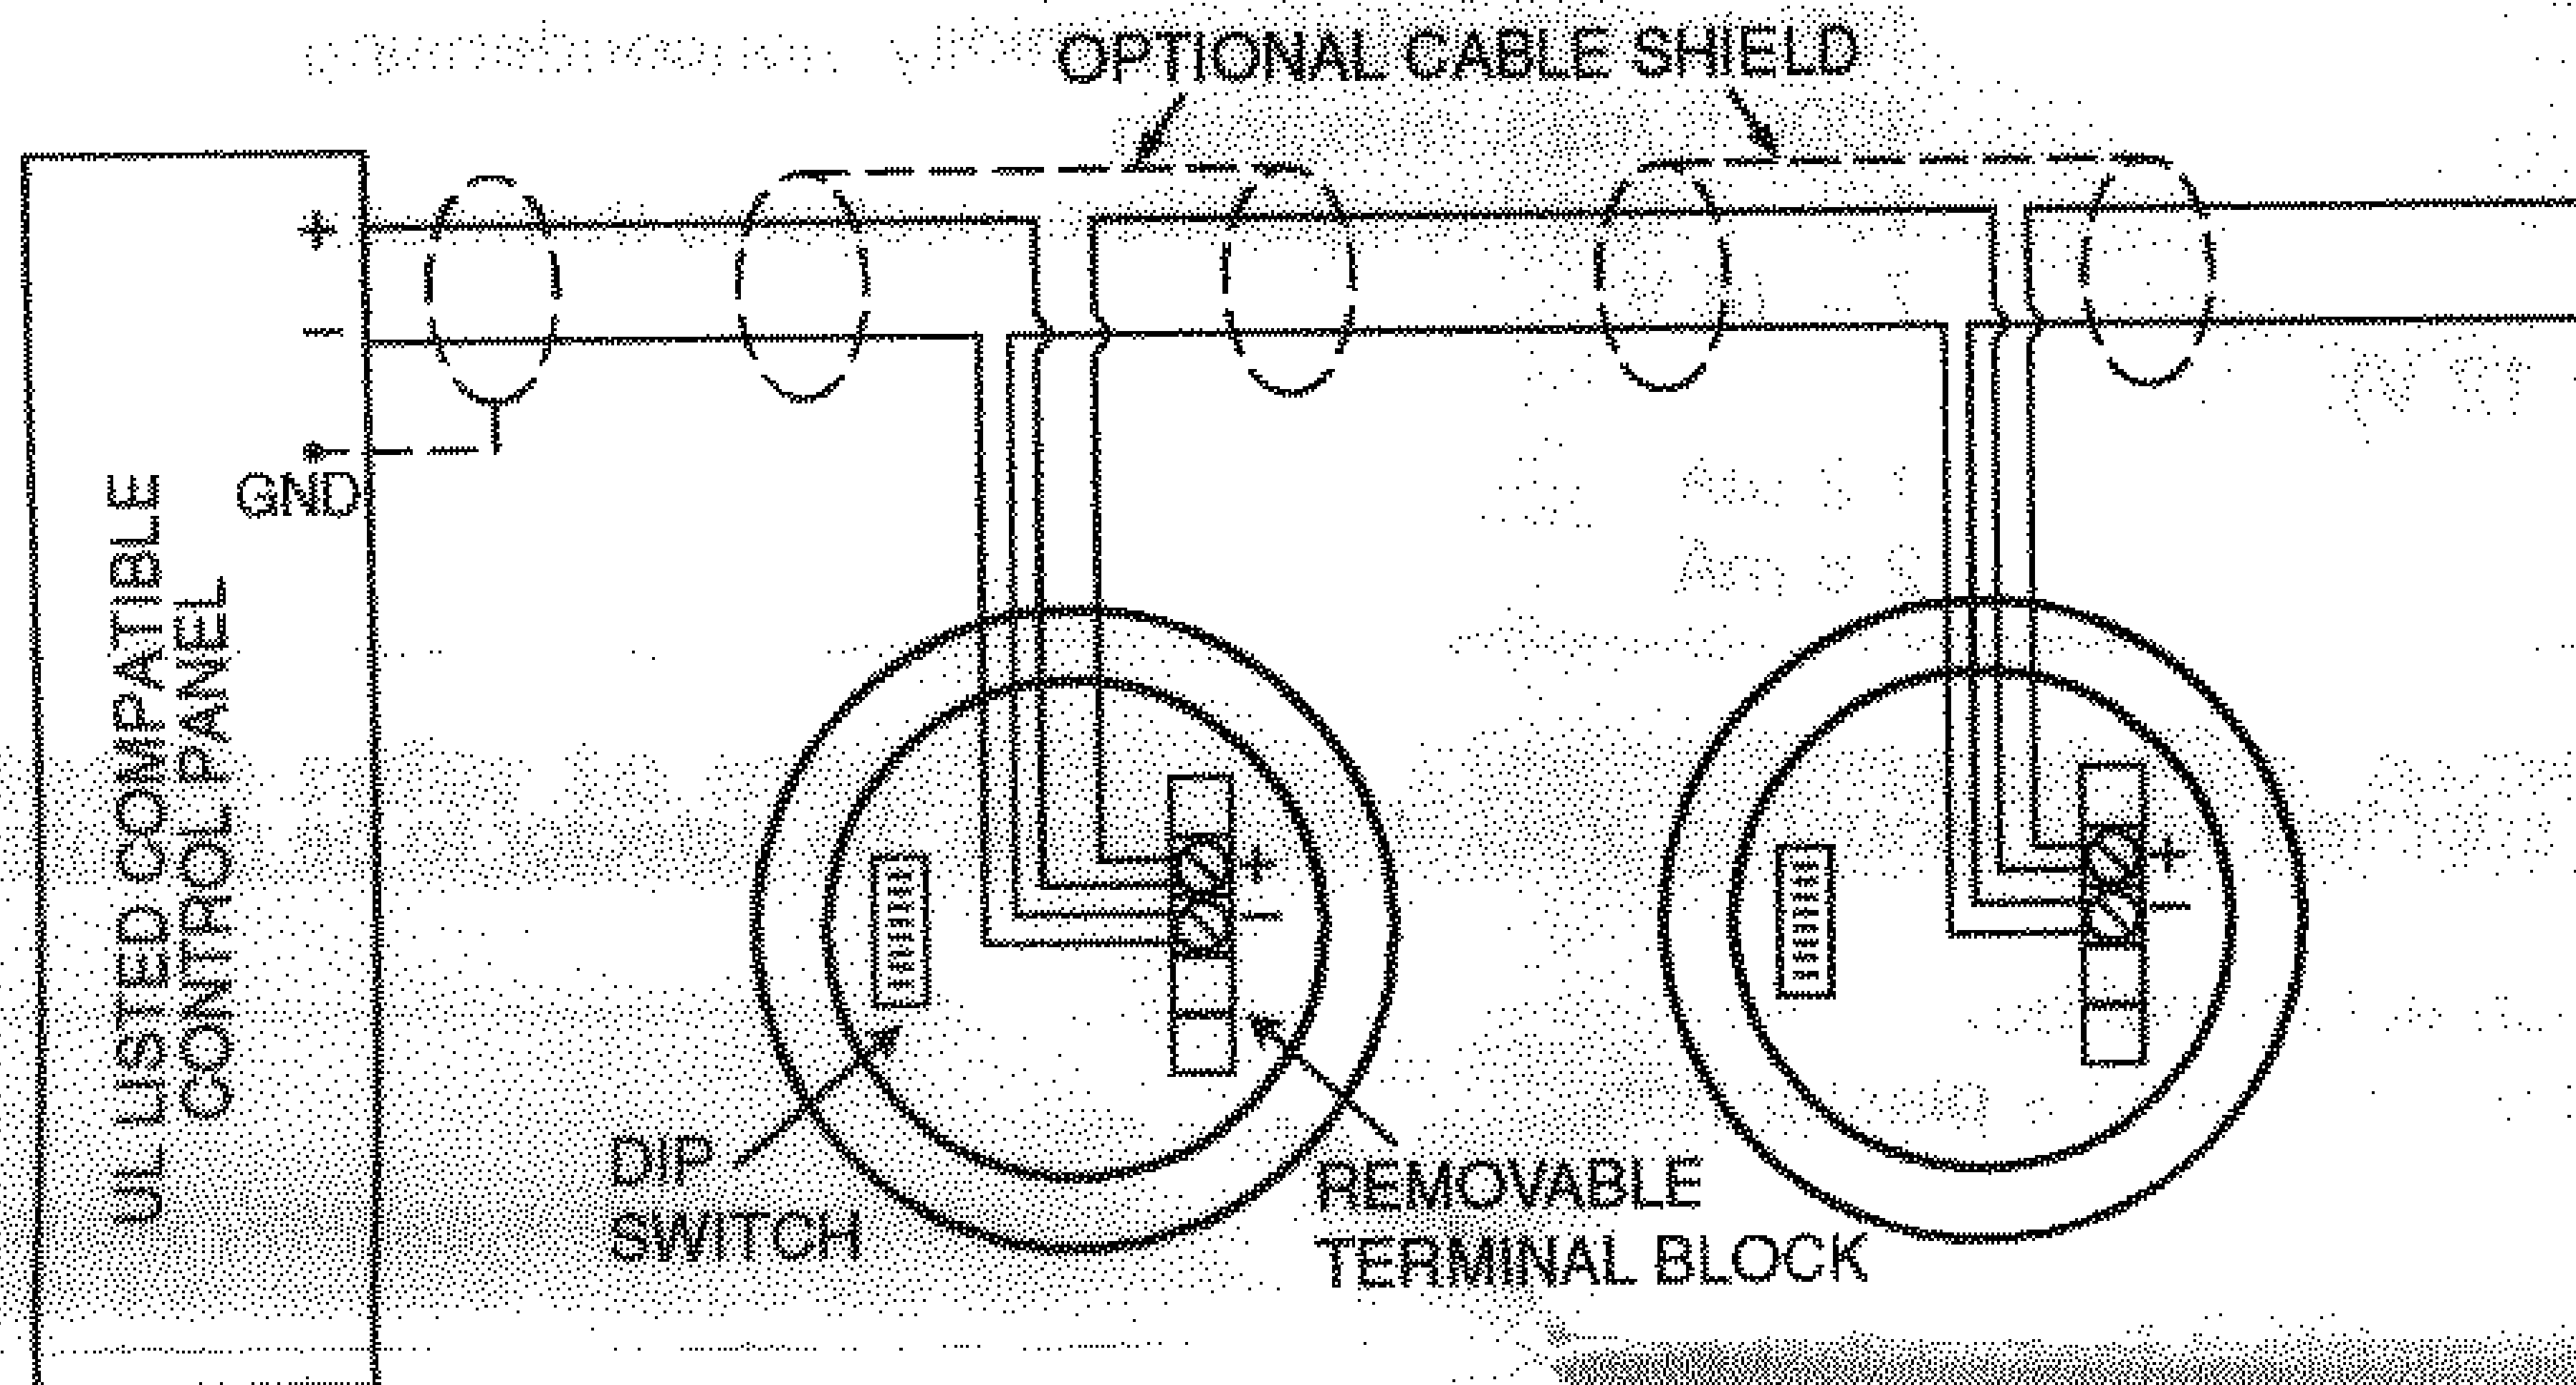

Figure 3. Wiring diagram for 5192SD/SDT smoke detector
1. Wire the plug-in screw terminal block (see Figure 3) and plug the terminal block into the detector.